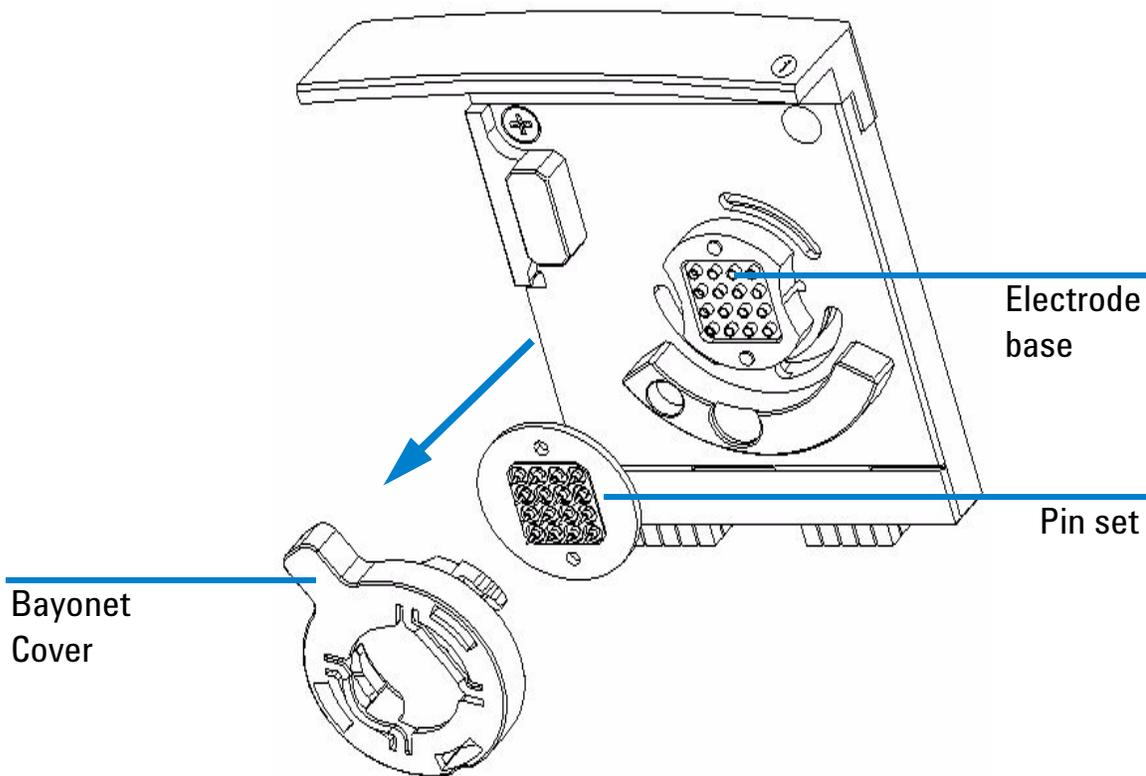

Figure 5 Releasing the Pin Set
- 5 Remove the cover of the bayonet socket by gently pulling the plastic lever. The pin set may stick to the electrode base. Remove it by carefully pulling it off. See Figure 5, “Releasing the Pin Set”.